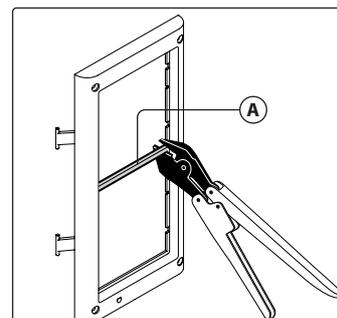

Fig. 26
- In order to proceed with the panel installation with Art. 4852 or Art. 4882, remove the cross bar **A** from the support frame as shown in **Fig. 26**.